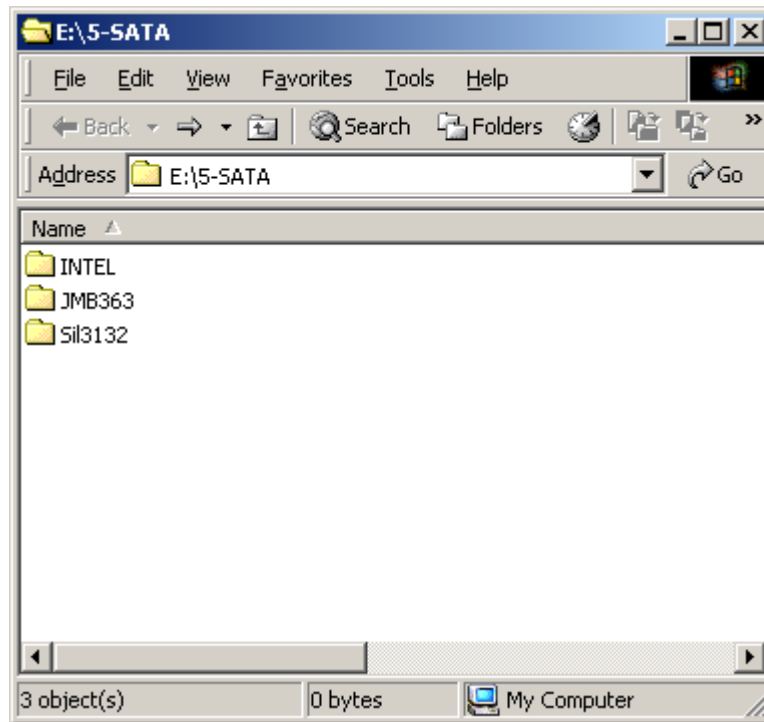

Figure 7-31: SATA RAID Driver Installation Program
Step 2: A new window opens (**Figure 7-31**).